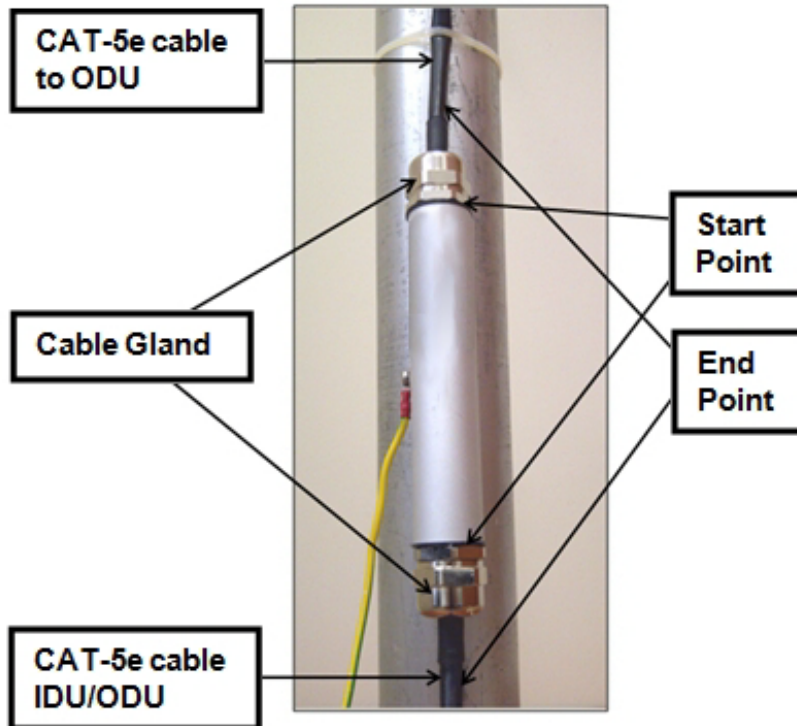

Figure 4-49: Start and End points for protective-taping the unit
4. Connect the tape with tacky side up on the cable gland cap and the CAT-5 cable. Start at **Start Point** at the bottom of the cable gland as shown in Figure 4-49. Finish at **End Point** of the CAT-5 cable, 2.5 cm after the end of the shrink tubing. Stretch the tape and apply half-overlapped to form gap-free joint.